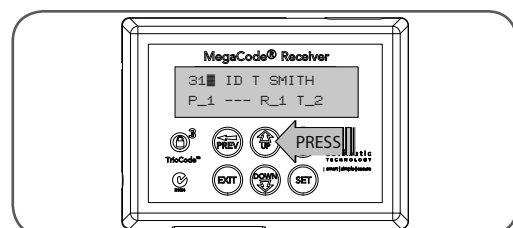

fig 15
1. Press UP or DOWN buttons to navigate through the list (Fig. 15).